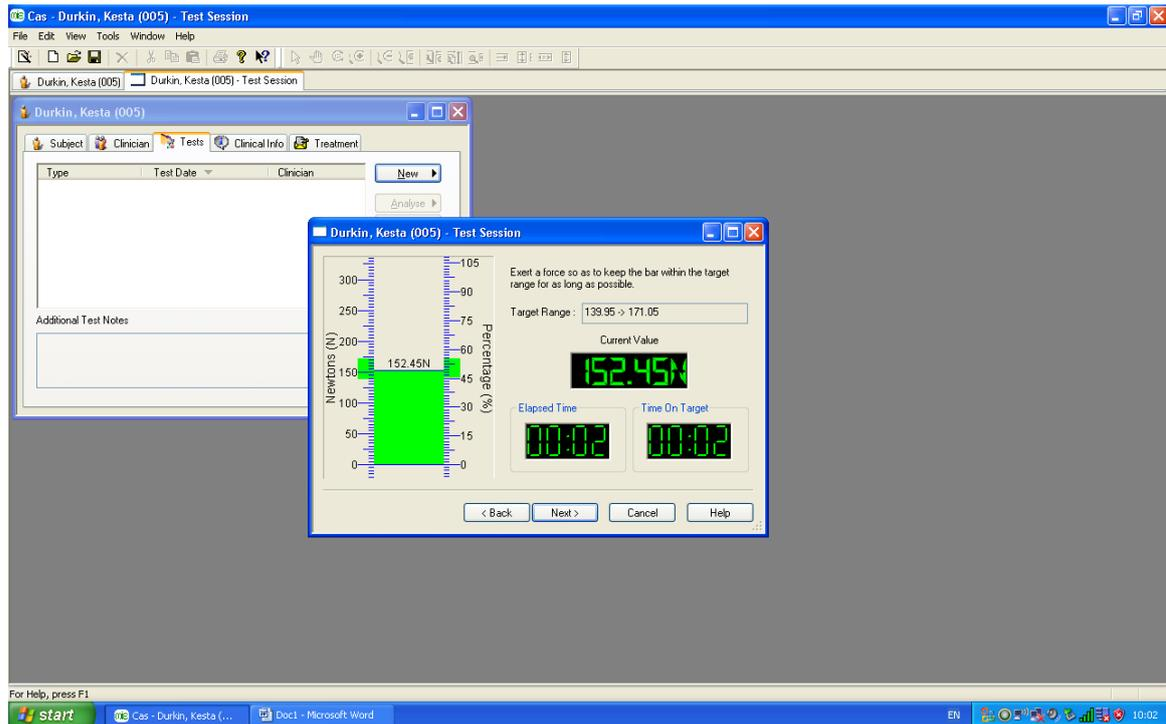

Figure 8.
11. The next screen will display a scale on a section of which a green area can be seen (figure 8).
12. The participant must now grip the handles for as long as they possibly can whilst keeping the line displaying the force of their grip, within the green area (figure 8).